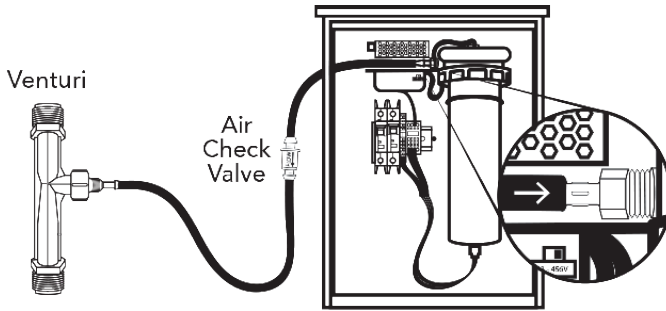

Figure 10: Venturi Connection
1. Connect provided 1/4-inch tubing from the venturi injection port to the straight barb fitting. See Figure 10.